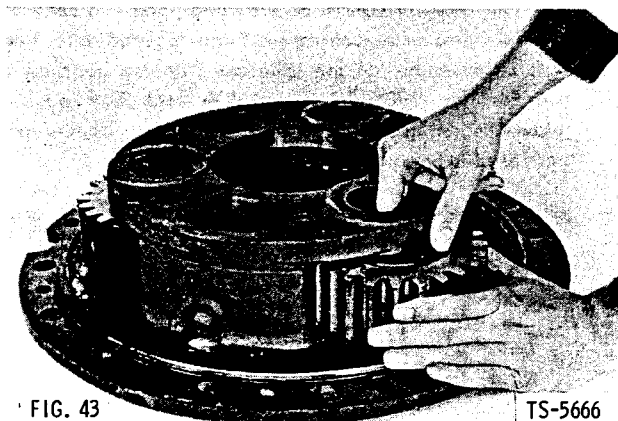

FIG. 43
2. Carefully remove pinion shaft, planet pinion, pinion thrust washers, pinion rollers, and pinion roller spacer (Fig. 43). Rollers will drop from pinions. Take care to prevent losing them.